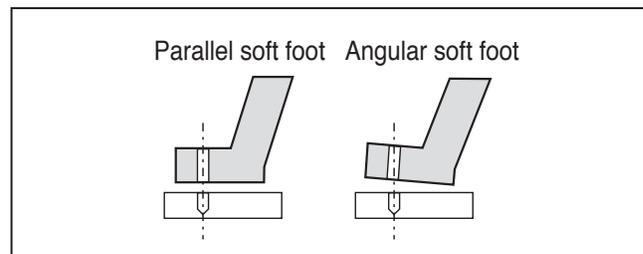

Figure 3. Types of "soft foot."
- **Soft foot.** Alignment procedures include testing for and correcting a "soft foot"—a common problem where the mounting feet aren't coplanar and therefore do not all sit flat on the motor base (see Figure 3). Unless this problem is identified and corrected with shims (see Figure 4), tightening the mounting bolts could twist the motor frame. See Table 1 for suggested soft-foot tolerances.